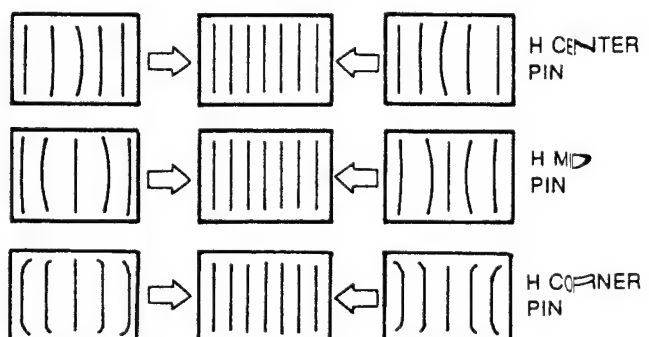

Fig. 1-12.
11. Adjust the H CENTER PIN, H MID PIN, and H CORNER PIN data as shown in Fig. 1-12.